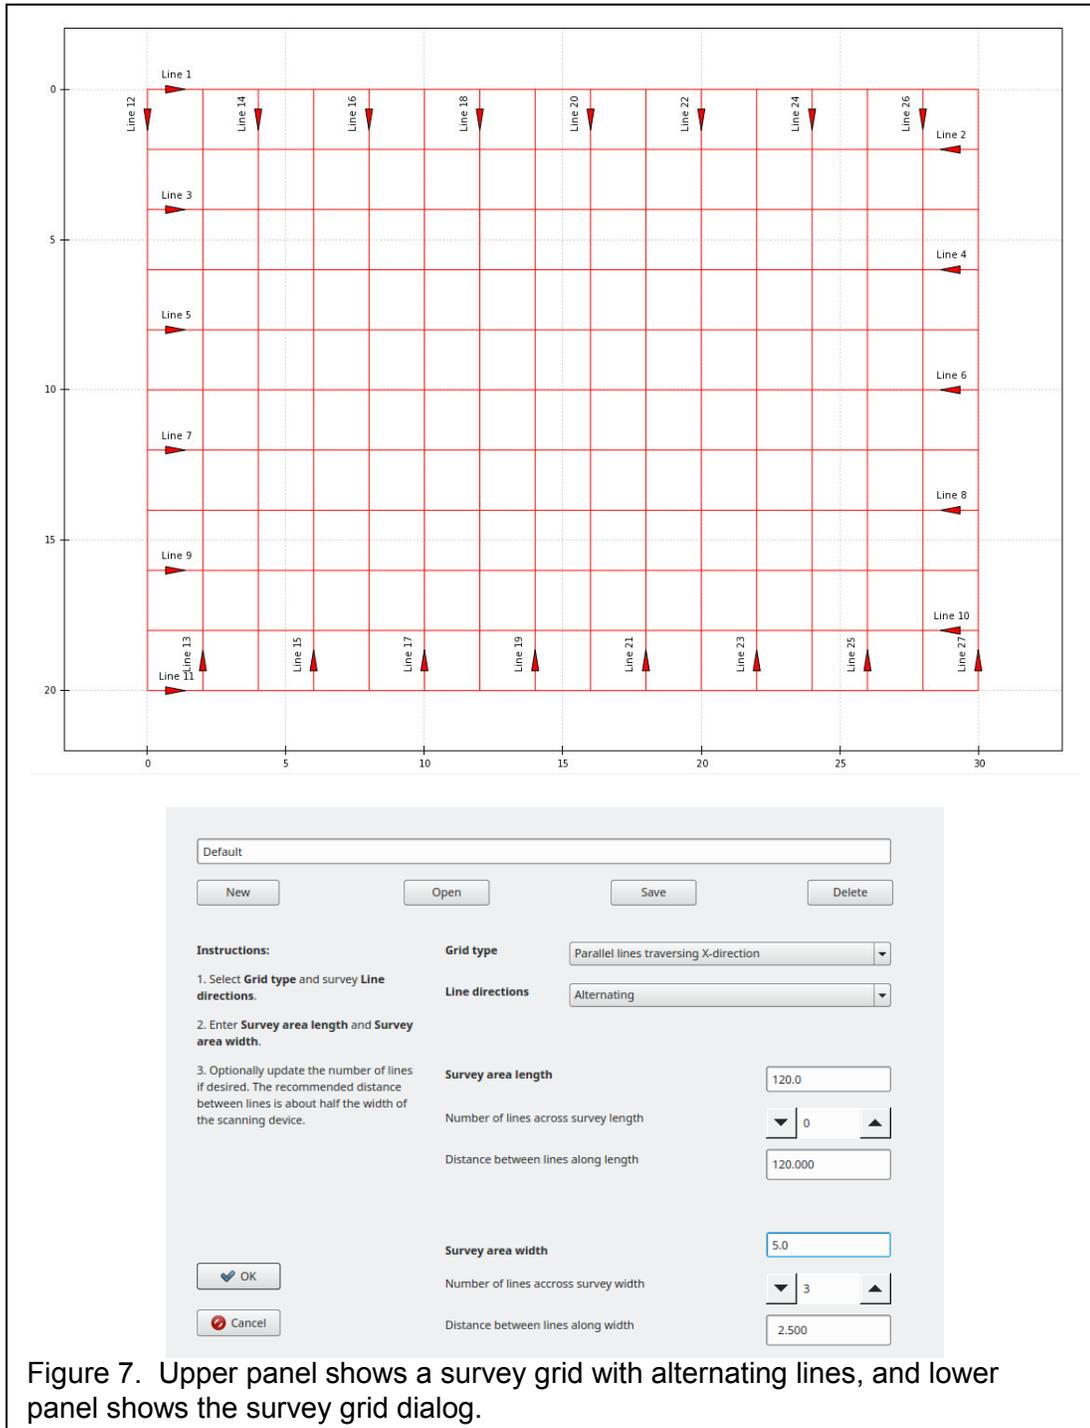

Figure 7. Upper panel shows a survey grid with alternating lines, and lower panel shows the survey grid dialog.
7. The Survey Grid tab shows how the linear traverses making up the survey will be arranged. This step can be skipped when only conducting a single scan line. These traverses are planned using the  button and the dialog shown in Figure 7. To type into dialog field, click on the field to place the cursor, then press the  icon on the taskbar to bring up the keyboard.